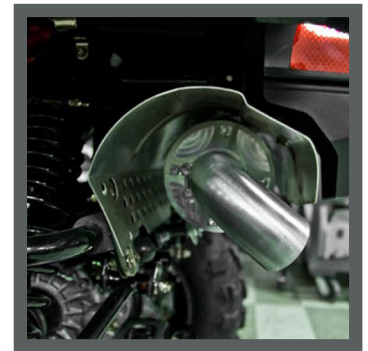

Figure 1
4. Reinstall the **Springs**. To keep the mud out of your **Silencer**, use the supplied **Adapter** and **Turn Down/Out Tip**. (See Figure 1)